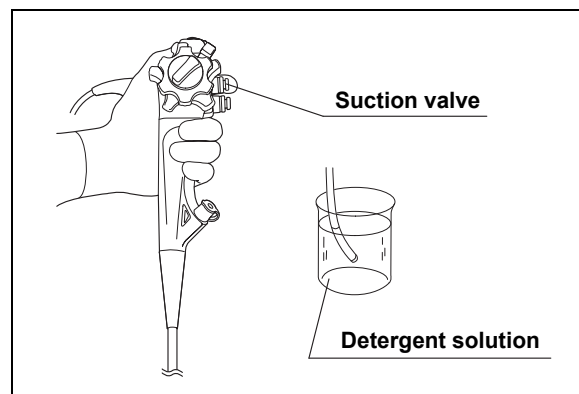

Figure 3.12
2. Immerse the distal end of the insertion tube in detergent solution. Depress the suction valve and aspirate detergent solution into the instrument channel for 30 seconds (see Figure 3.12).